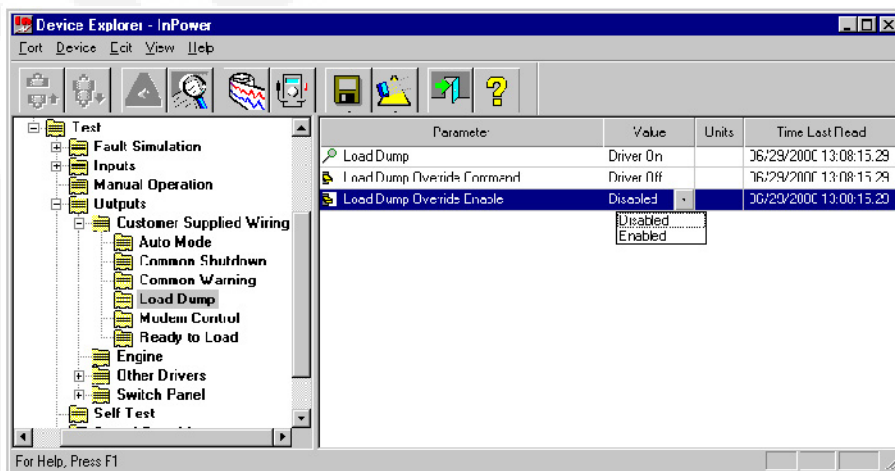

FIGURE 95. OUTPUTS - CUST. SUPPL. WIRING - LOAD DUMP
**Example:** In this example, InPower is used to enable the **Load Dump Override Command** (refer to Figure 95). Make sure that the **Load Dump** parameter is set to **Driver On**. (If it is not, change it with the **Load Dump Override Command** parameter, and save that parameter setting.)